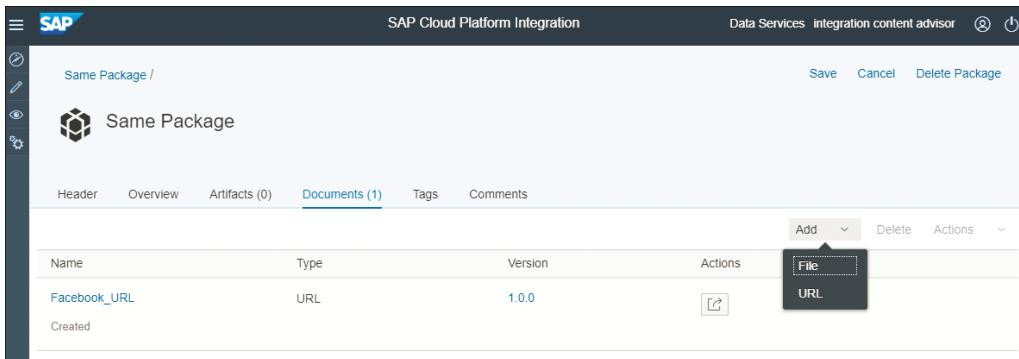

Figure 3.32 Adding a File or URL to a Content Package
7. To provide documentation for the integration package, click on **Add** in the **Documents** tab, as shown in Figure 3.32. Documents of type **File** or **URL** can be added to this tab.